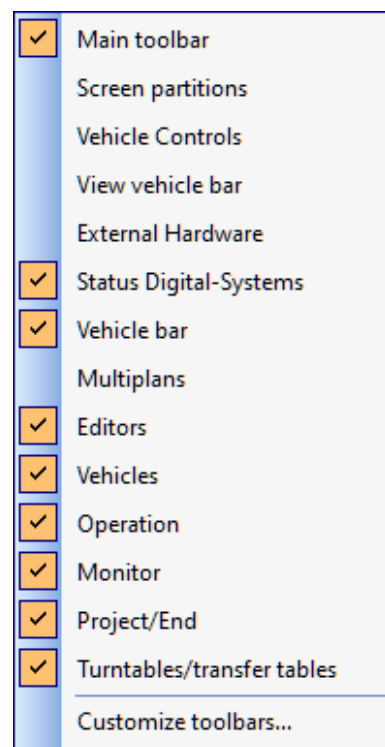

Fig. 16.40 The toolbars short menu
For taskbars that you do not need for your tasks in **Win-Digipet**, you can deactivate the view. To do this, call up the taskbar menu again (see Fig. 16.40) by right-clicking in a free area within the menu bar or taskbar.
- To do this, call up the taskbar menu again (see Fig. 16.40) by right-clicking within the menu bar or taskbar.
- To do this, call up the taskbar menu again (see Fig. 16.40) by right-clicking within the menu bar or taskbar
- ☛ To do this, call up the taskbar menu again (see Fig. 16.40) by right-clicking within the menu bar or taskbar